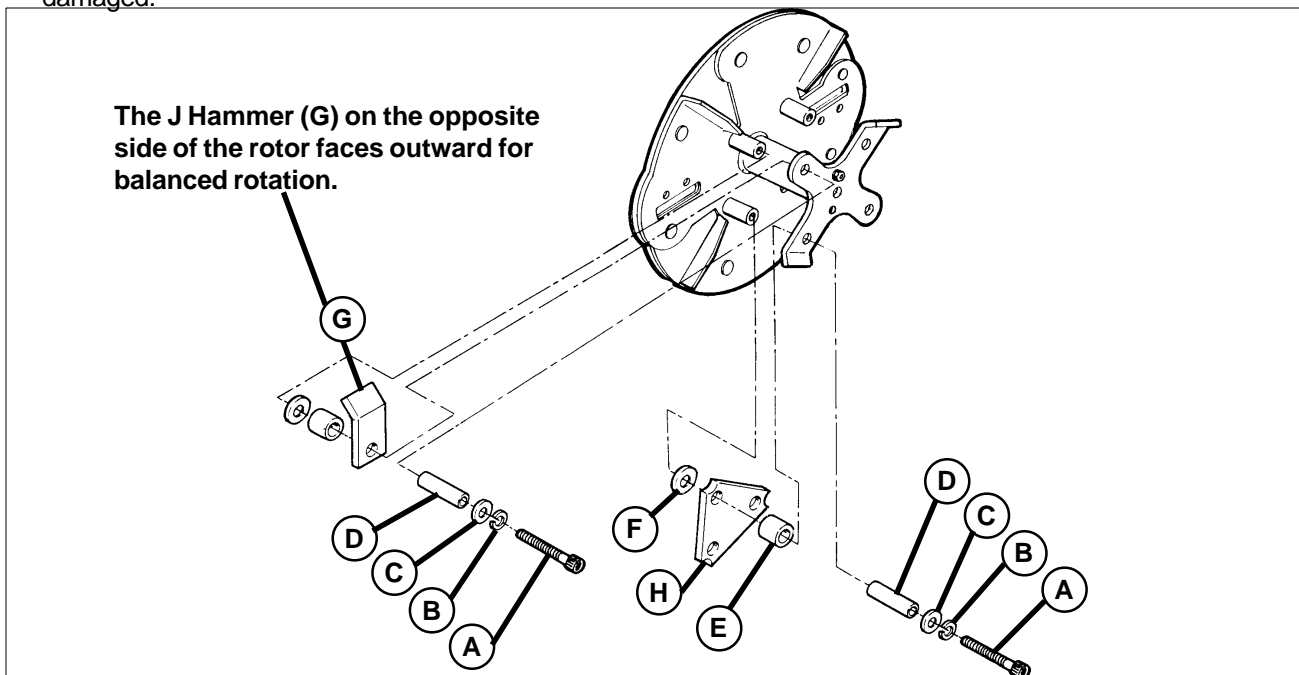

Figure 14. Proper Hammer Assembly
5. Before proceeding, note the assembly sequence of the hammer, spacer, spacer tube, and hardware. Hammers and spacers must be reassembled in the same order to ensure proper rotor balance, shredding efficiency, and safety. See Figure 14 for correct position of parts.
6. Using a 5/16" Allen wrench, remove the socket head cap screw (A, Figure 14), lockwasher (B), flat washer (C), and spacer tube (D), being careful to catch the parts as the cap screw is removed.
8. Tighten the cap screw (A, Figure 14) securely. For proper assembly, torque to 30-35 ft. lbs.